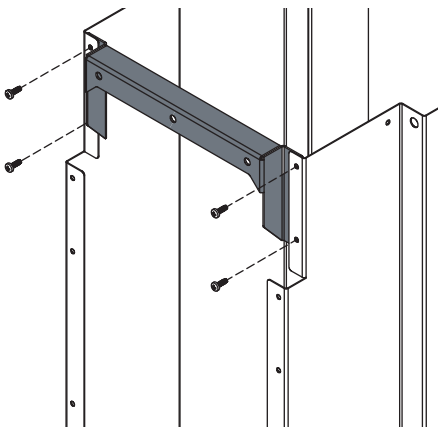

Figure 3.1
1. Using (4) 8-32 x 1/2" PH thread-cutting screws, attach the wall mount using one of the three positions shown. **Figure 3.1, 3.2, 3.3.**